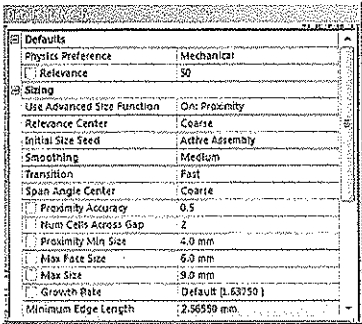

Figure 8-3 Partial view of the Details of “Mesh” window
- Select **Mesh** in the Tree Outline; the **Details of "Mesh"** window is displayed, refer to Figure 8-3.
- 11. Next, specify **9** in the **Max Size** edit box, refer to Figure 8-3.